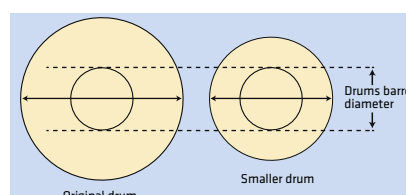

Fig. 4
- ✔ When it is required to rewind the cable on to another drum, always consider that the diameter of the new drum barrel should be at least the same size of the original drum barrel diameter (see fig. 4).